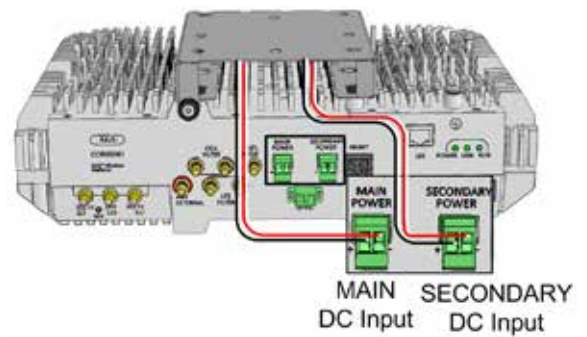

Figure 7. RAU5x MAIN and SECONDARY DC Input Connections
- Step 1:** Connect DC wire pair to the RAU5x SECONDARY POWER DC input connector (see Figure 7):
Connectez la paire de fils DC au RAU5x connecteur SECONDARY POWER (voir Figure 7):